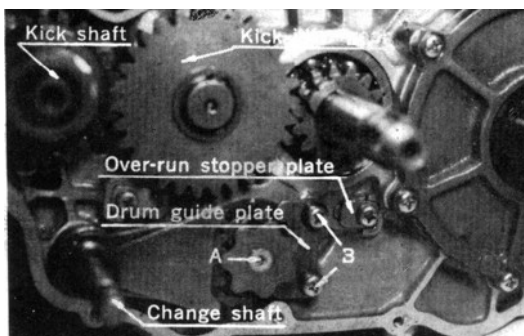

Fig. 22 Removing overrun stopper & guide plate
8. Remove over-run stopper plate by unscrewing the screw (shown by the arrow A in Fig. 22). (Fig. 22)
9. Remove guide plate and ratchet comp, by unscrewing the two (6 × 12) screws (shown by the arrow B) of the ratchet guide plate. (Fig. 22)